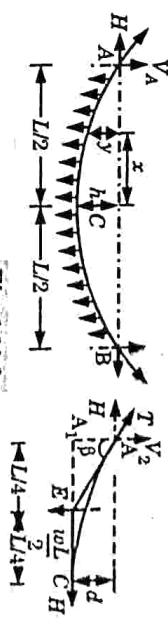

Fig. 1.11.2.
1. When both the ends of the cable are at the same level as shown in the Fig. 1.11.2.